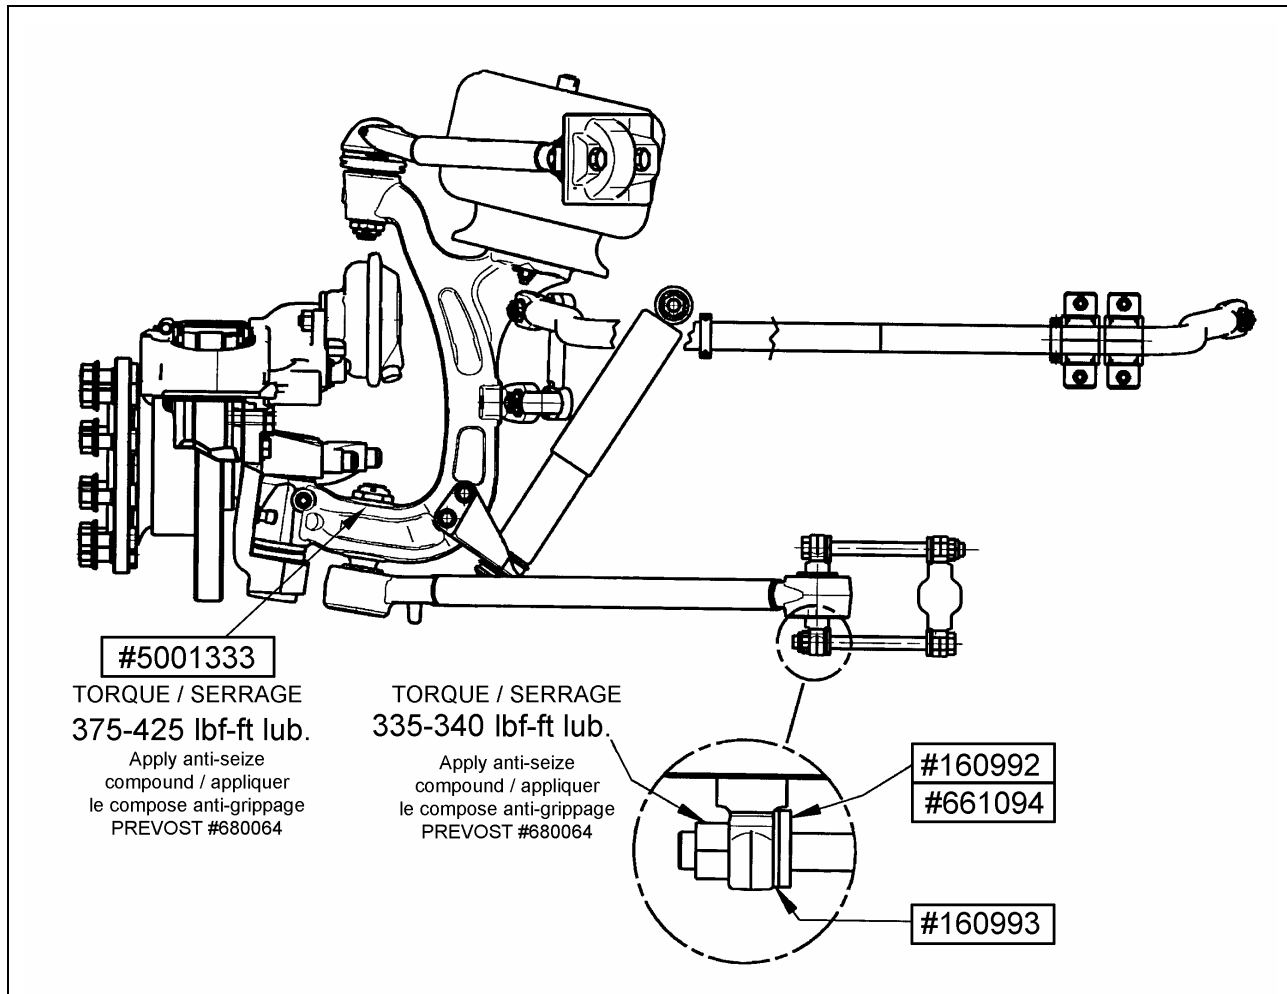

FIGURE 2
4. Install the new A-arm as shown in figure 2. Use a new castellated nut #5001333 and a new cotter pin #502106. Tighten to a torque of 375lbf·ft then turn the nut just to be able to insert the cotter pin. Assure that the torque is not higher than 600lbf·ft. Apply anti-seize compound #680064 on threads.